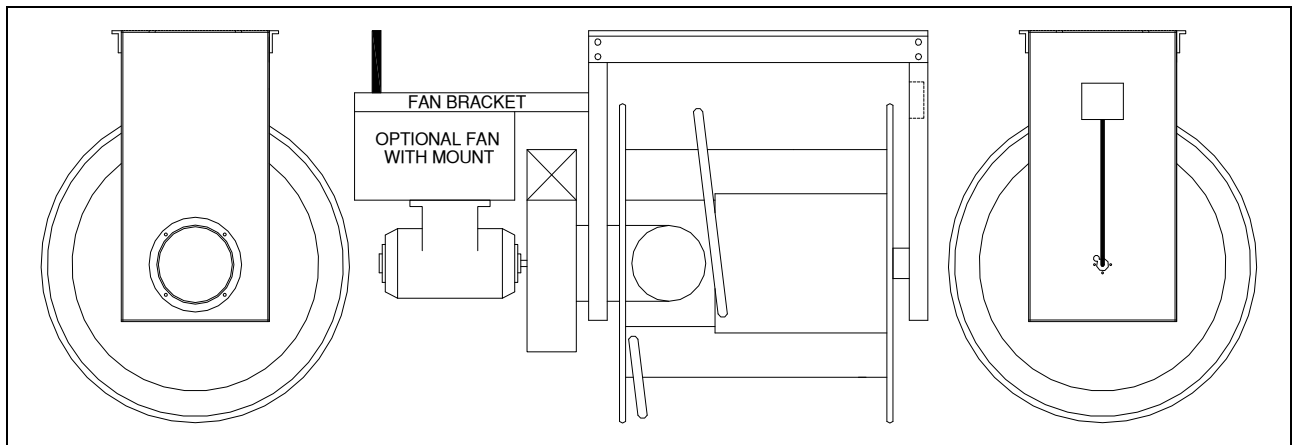

FIG 1
1. Raise the hose reel off of the ground with lifting mechanism (i.e. forklift, crane, etc.) and mount it to the ceiling, wall, or floor at desired location using 1/2" bolts in all four corners. The hose reel should be oriented as in FIG 1 with the hose reel base on top.